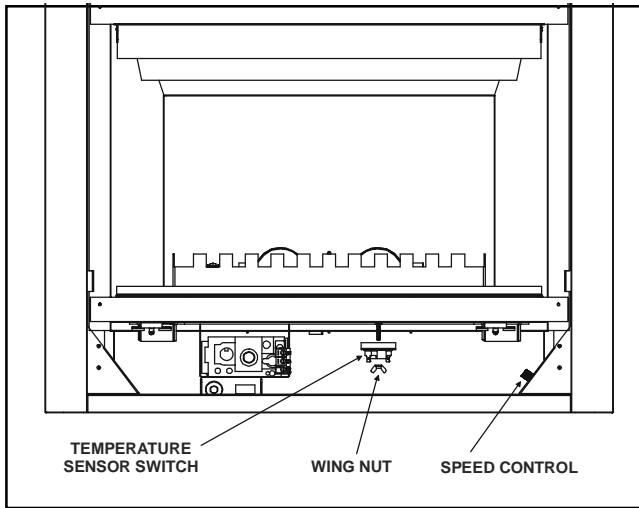

FIGURE 4
2. Slide the temperature sensor switch/bracket assembly onto the weld stud on the outside bottom of the combustion chamber. Secure the bracket assembly with the wing nut provided. See Figure 4.